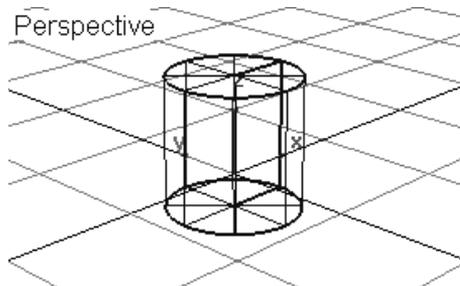

Figure 2-98 Cylinder created for the base of the model
2. Enter **0, 0, 25** in the promptline and press ENTER; the cylinder is created, as shown in Figure 2-98.